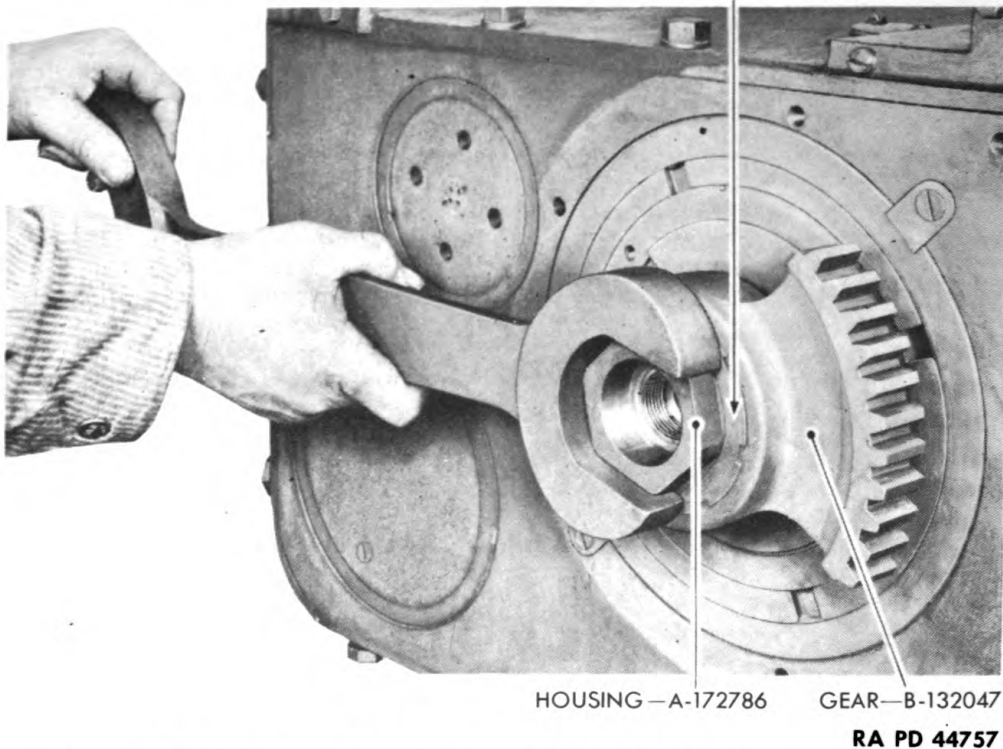

Figure 105—Removing Replenisher Tube Packing Housing
(3) Should it be necessary to remove recoil control rod gear (fig. 105), proceed as follows:
(a) Unscrew housing A172786 from recoil control rod D8897 with bogie trunnion nut and lifting screw shackle pin wrench B105336 (fig. 105).